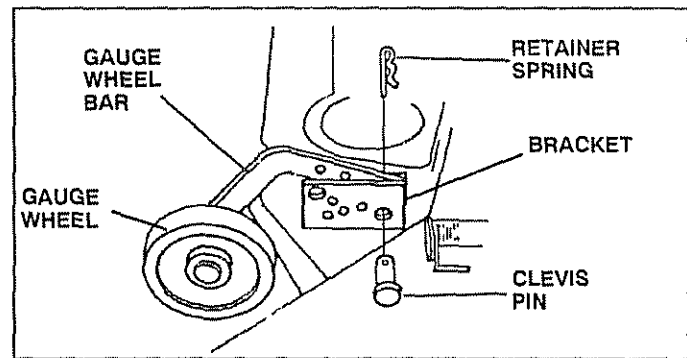

FIG. 7
- Insert gauge wheel bar into bracket (See Fig. 7). Retain with clevis pins and retainer springs.